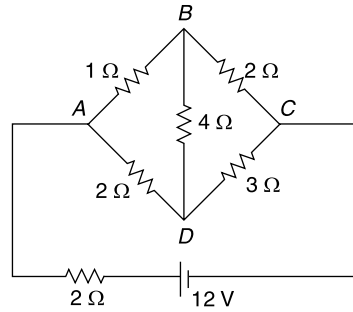

Fig. 4.205
44. Find the current in each branch of the network shown in Fig. 4.205 using Kirchhoff's law.